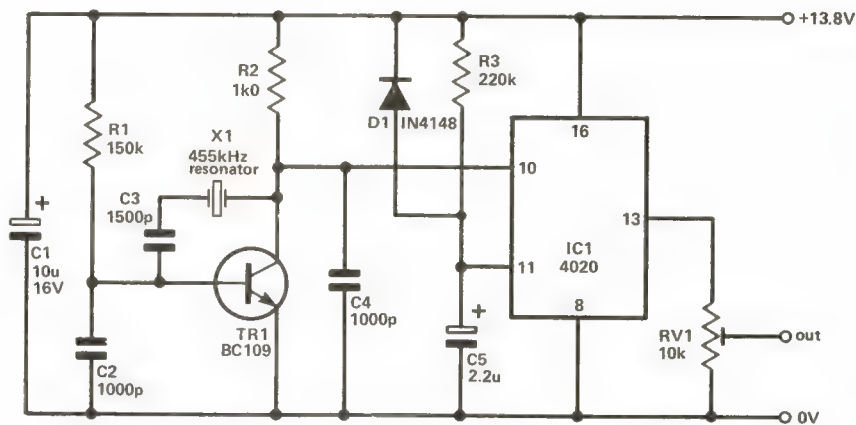

Figure 2: Automatically timed toneburst circuit.
2) **Automatically timed:** The standard automatic toneburst circuit is a 7.168MHz crystal feeding either a 4020 or 4060 ripple binary counter. But these crystals are expensive (about £2.50), so this design (*Figure 2*) uses a 455kHz resonator (approx 45p). The transistor oscillator circuit with the specified capacitors should pull the frequency down to 448kHz (which is 1750Hz \times 256). This signal is fed into the 4020 where it is divided by 256, with the output being taken from pin 13. C5 and R3 provide the timing network (with a time constant of approx 0.5sec) and RV1 controls the deviation level.